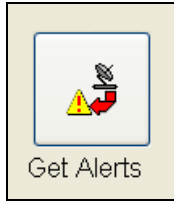

Figure 6.1.1
1. From the List of icons to the right of the **"Speed Communications"** screen select the **Get Alerts** icon (Figure 6.1.1).